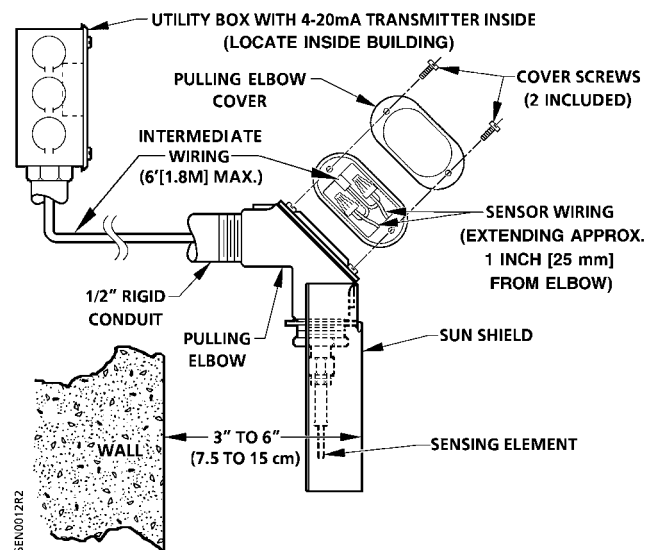

Figure 3. Outside Air Sensor, Option B Installation.
- Pull the sensor lead wires from the pulling elbow. Thread the pulling elbow/sensor assembly onto the conduit as shown in Figure 3.
- Connect the intermediate wiring to the sensor wiring as shown in Figure 3.